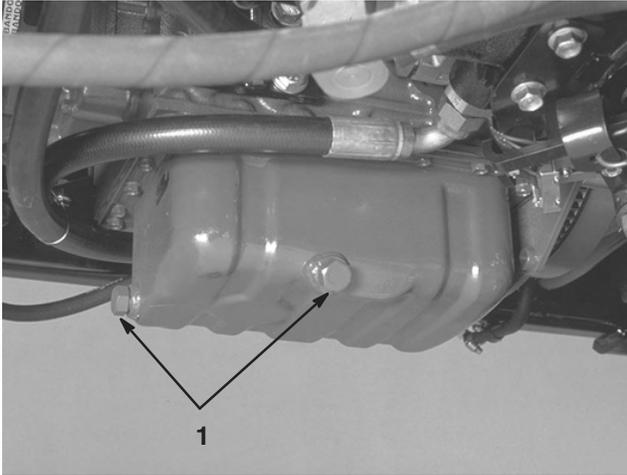

Figure 40
1. Remove either drain plug (Fig. 40) and let oil flow into a drain pan. When the oil stops flowing, install the drain plug.